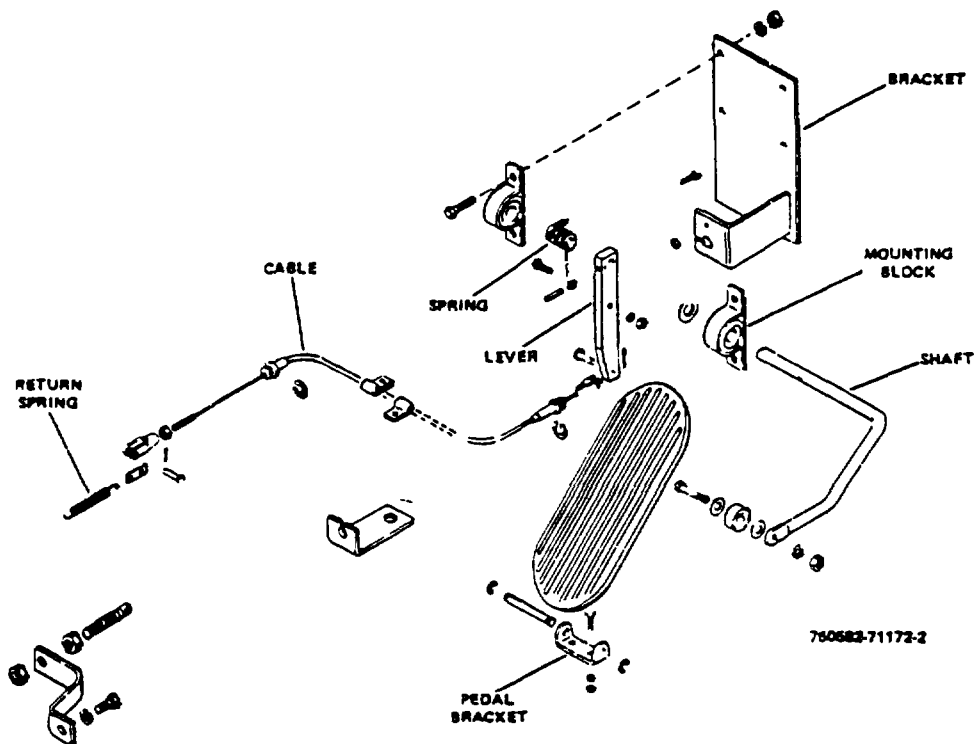

Figure 5-2. Accelerator and Linkage (Type II)
5. Accelerator Cable (PRT). Remove Cable return spring from spring clip. Remove "E" rings to disconnect cable (Fig 5-2) from lever and bracket. remove cotter pins and yoke pins and disconnect cable from accelerator lever and carburetor. Remove accelerator cable return spring from spring clip. Remove nuts and lockwashers from all joints at accelerator lever and throttle lever and remove cable. Ball Joints can be removed from cable by loosening jam nuts and turning ball joints off. The spring clip can be removed by removing one of the jam nuts.